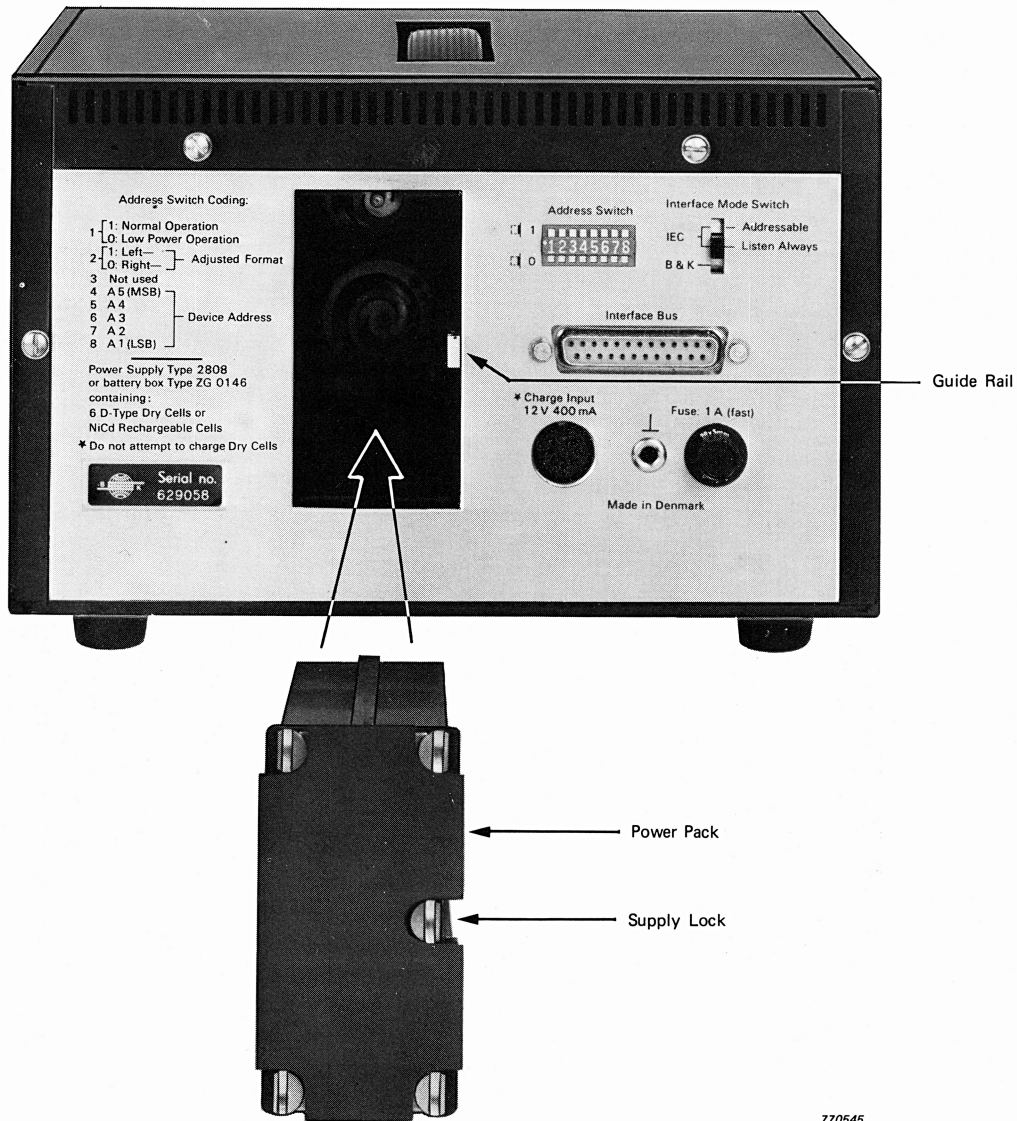

Fig.3.2. Removing Power Pack from 2312
1. Using a screwdriver or a coin, turn the screw-headed supply lock through 180° (see Fig.3.2).
1. Place the Power Pack in the position shown in Fig.3.2 so that the end of the channel in the side of the Power Pack is located against the guide rail in the 2312's battery compartment.